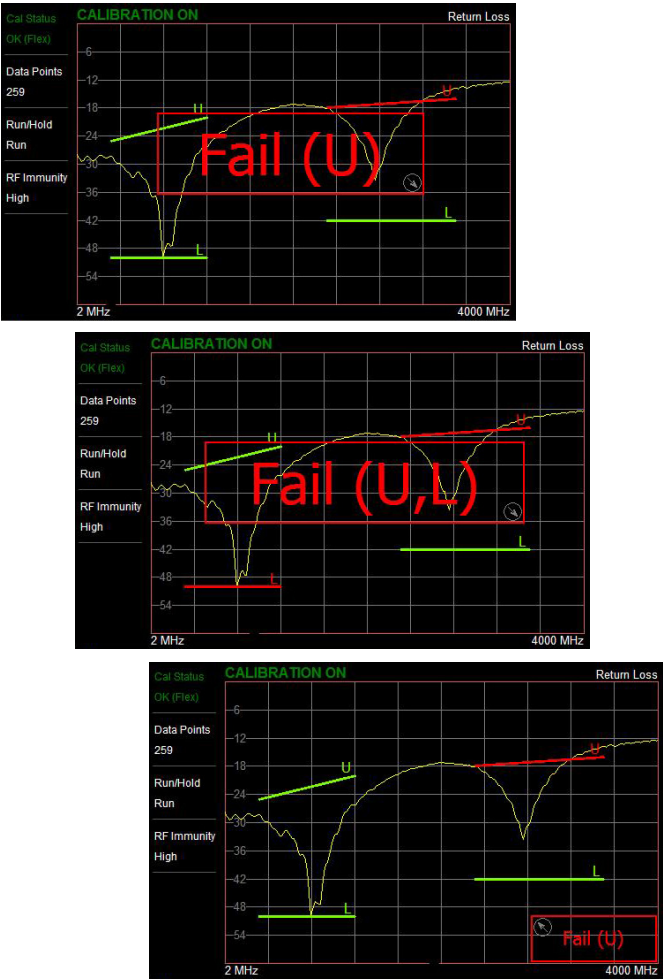

Figure 3-28.
When set to On, a **Pass** or **Fail** message is displayed. Fail is displayed when the trace crosses or touches a limit line, as illustrated in Figure 3-28. Note that Upper(U) or Lower (L) or both (U, L) are displayed. To change the size and location of the Pass/Fail message, tap the small circled arrow in the lower-right corner of the large format message box. The circled arrow is in the upper-left corner when the message is in small format.